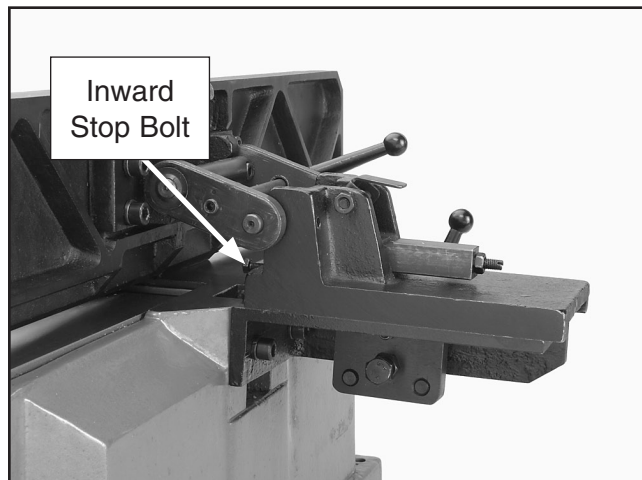

Figure 26. Adjusting the inward stop.
7. Using two 8mm wrenches, adjust the inward stop bolt (see **Figure 26**) until it hits the fence at precisely 45° inward, then tighten the jam nut (where the bolt meets the bracket assembly) while holding the stop bolt in place. Some trial-and-error will be required to set this stop correctly.